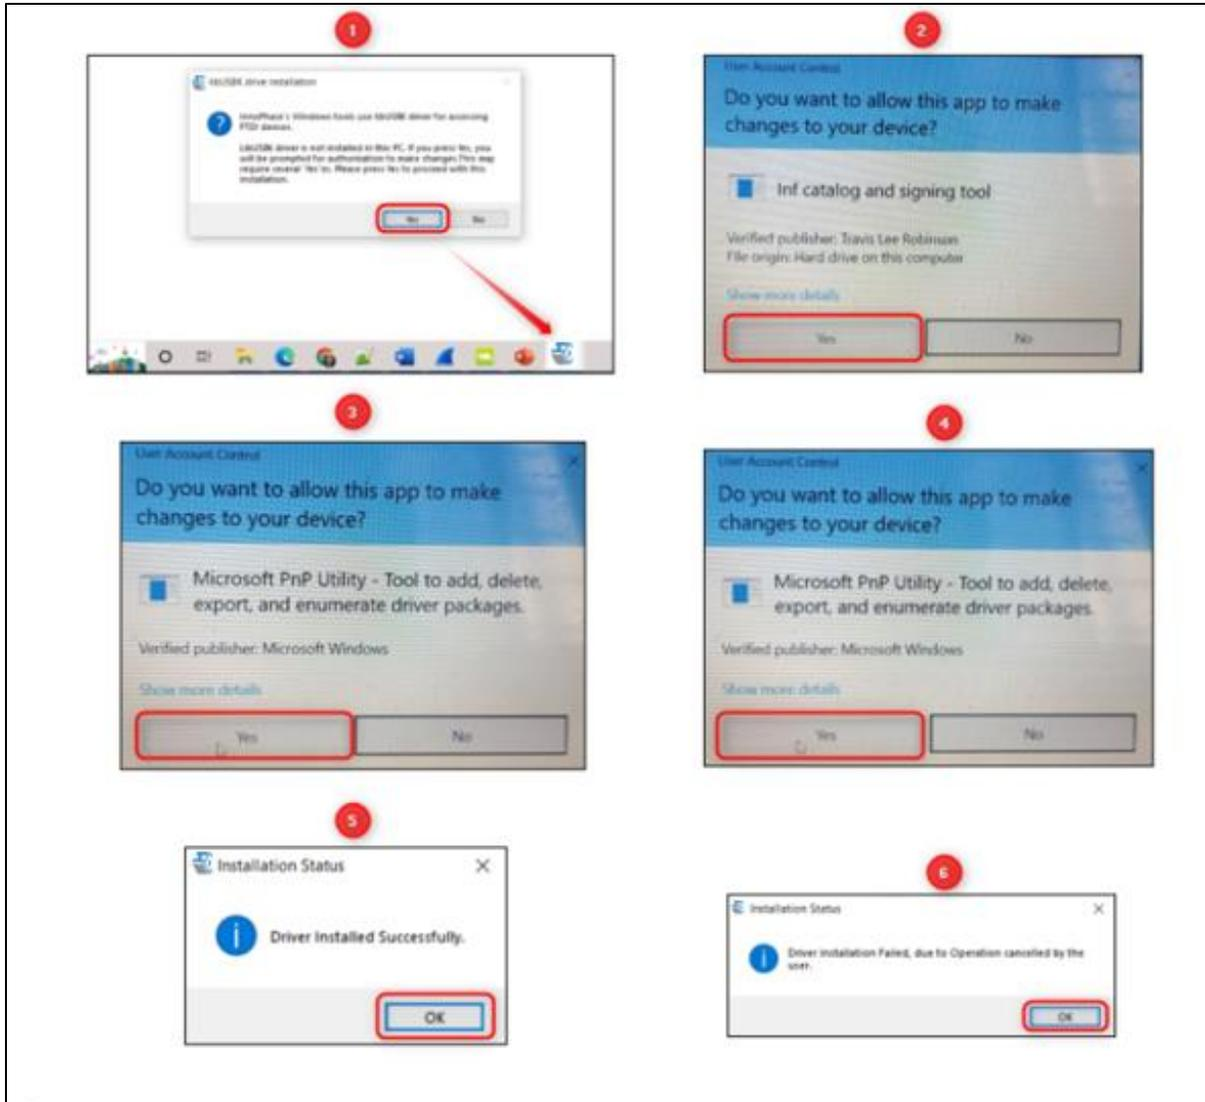
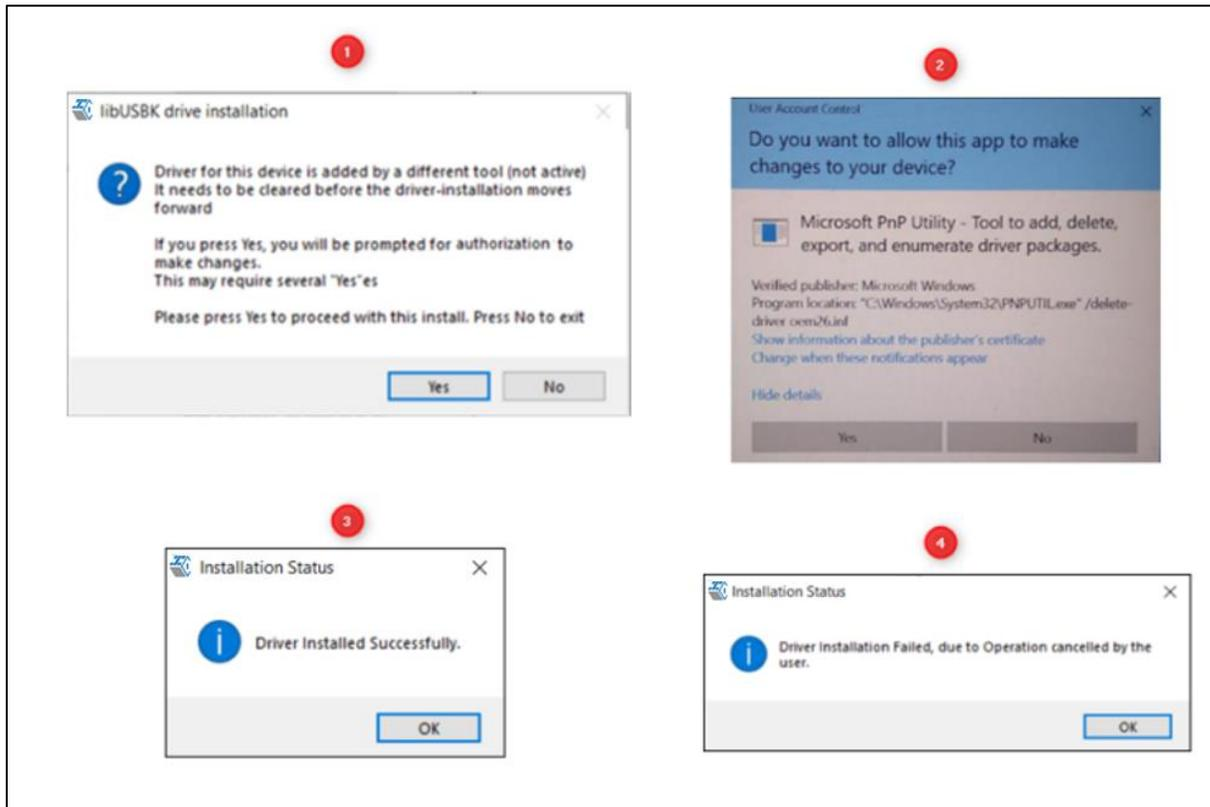

Figure 5: User Account Control authentication to complete driver installation
Figure 6: User Account Control authentication to delete unwanted libusbk drivers
Talaria TWO Demo Tool comes with an option of `One-Click Installation` of `libusbK` driver. In case the driver is not installed, the tool will ask for user confirmation to install this driver. If the user selects `yes`, various `User Account Control` authentication screens will appear to complete the driver installation (as shown in Figure 5).
1. In case of any other unwanted `libusbK` drivers that are already installed, the tool will automatically uninstall the unwanted drivers. This action needs `User Account Control` authentication screens shown in Figure 6, in addition to Figure 5. Each unwanted drives will require a separate `User Account Control` authentication for uninstallation.
2. Talaria TWO Evaluation Board may get detected under any already installed device driver (using `libusbK` driver). In this case, the tool will follow the procedure of `One-Click Installation of libusbK driver` (as shown in Figure 5), and might get completed a with pop-up message “`Driver Installation Failed`”. This will result in any one of the following two conditions:
From Figure 5:
From Figure 6: